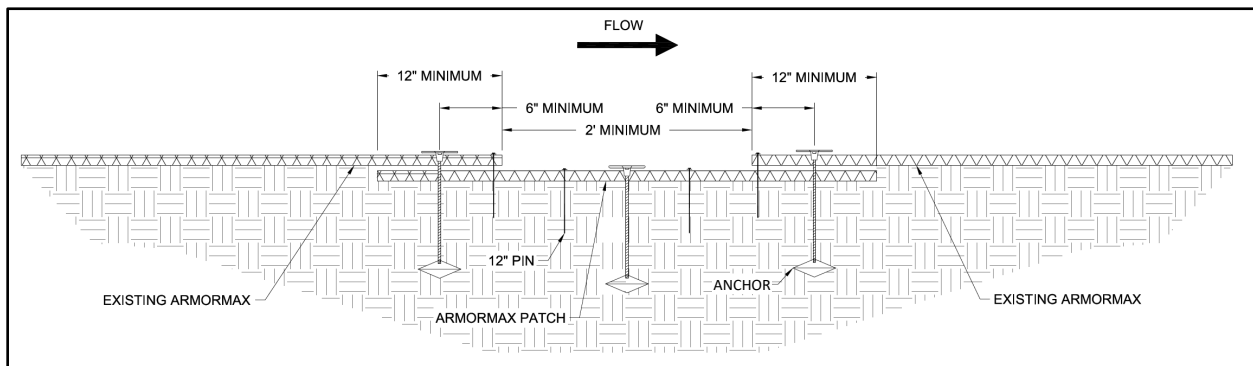
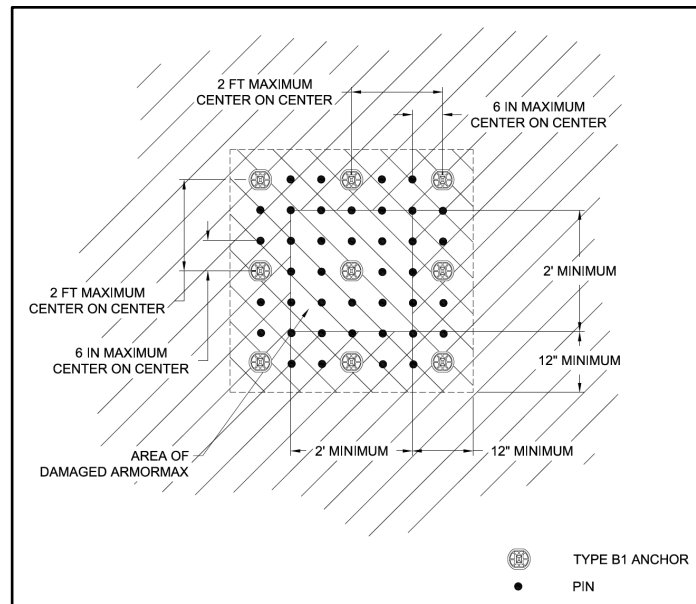

Figure 23: ARMORMAX Patch Cross Section
Figure 24: ARMORMAX Patch Plan View
- A. *Acceptable (A)* - The rated area is in satisfactory, acceptable condition, and will function as designed and intended during the rain event. ARMORMAX has no exposed edges, is installed tightly by maintaining direct contact to the slope surface with no rilling beneath, and has over 90% vegetation cover. There is no noticeable damage present.
- B. *Minimally Acceptable (M)* - The rated area has a minor deficiency that needs to be corrected. The minor deficiency will not seriously impair the functioning of the area during the next rain event; however, the overall reliability of the project will be lowered because of the minor deficiency. ARMORMAX has 75% vegetation cover with un-vegetated patches as large as one square yard. Edges of ARMORMAX are exposed with noticeable damage. Minimal erosion has occurred underneath ARMORMAX.
- C. *Unacceptable (U)* - The rated area is unsatisfactory. The deficiency is so serious that the area will not adequately function in the next rain event. ARMORMAX has been physically torn, ripped, or lifted from the slope surface. Less than 75% vegetation cover is present with un-vegetated patches being greater than 1 square yard, and there is evidence that erosion is occurring beneath ARMORMAX.
3. To repair ARMORMAX, cut out and remove damaged areas in a square configuration a minimum size of 2 ft by 2 ft. Remove all vegetation and debris atop of ARMORMAX. Loosen the top 1 to 2 in of soil in the patch area then seed. The subgrade of area to be patched shall be prepared to be smooth and uniform and transition smoothly into the in-situ area. Cut a square ARMORMAX patch a minimum of 12 in greater than the damaged area for all four sides of the patch. Overlap the patch area in all directions a minimum of 12 in. The patch overlaps shall be tucked under the existing damaged ARMORMAX material (Figure 23 and Figure 24).